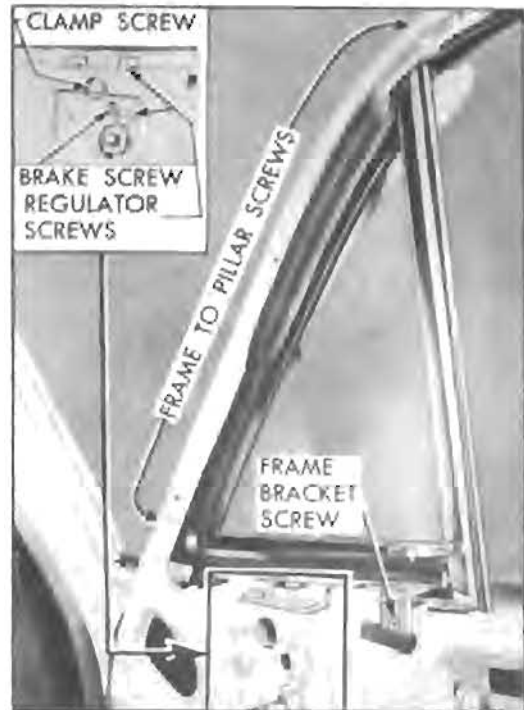

Figure 13-34—Ventilator and Regulator Mounting—Series 50-70 Shown
Door ventilators are operated by a regulator mounted on the door inner panel. A bolt type lock riveted to the glass channel provides a lock for the ventilator. See figure 13-34.
Excessive play at ventilator lower pivot may be corrected by tightening the clamp screw which attaches the glass channel T-shaft to ventilator regulator. See figure 13-34.
Excessive looseness or tightness in operation of the ventilator regulator may be corrected by adjusting the screw which controls the brake or friction clamp on the regulator. See figure 13-34.
2. Remove clamp screw which attaches glass channel T-shaft to regulator, also the regulator attaching screws. See figure 13-34.
4. Install regulator by reversing the removal procedure. Adjust the brake screw (fig. 13-34) to provide proper operating tension on regulator before attaching trim pad.
3. Remove screws attaching ventilator frame bracket to door inner panel. See figure 13-34.